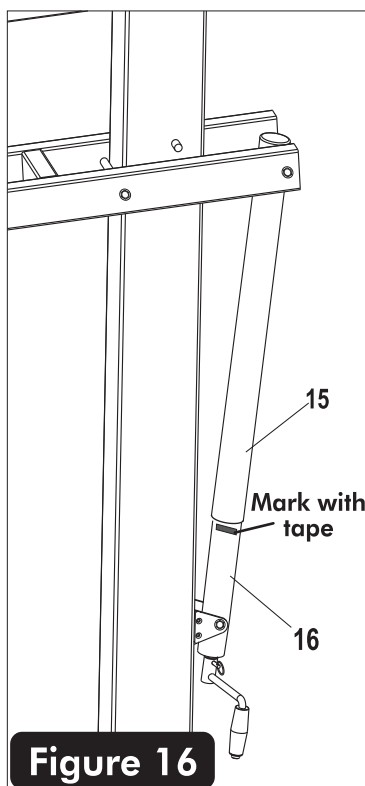

Figure 16
30. Using tape - mark the **side** of the steel actuator (#16) just under the plastic actuator sleeve (#15) at this 10 ft rim height. See **Figure 16**.